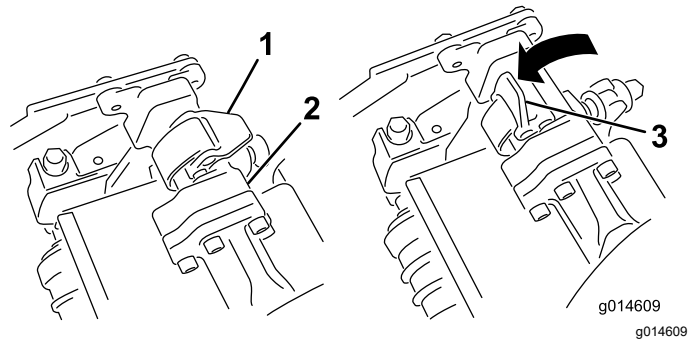

**Figure 60**
2. Lift up on the foot rest and swing it open, allowing access to the center cutting unit position (Figure 60).